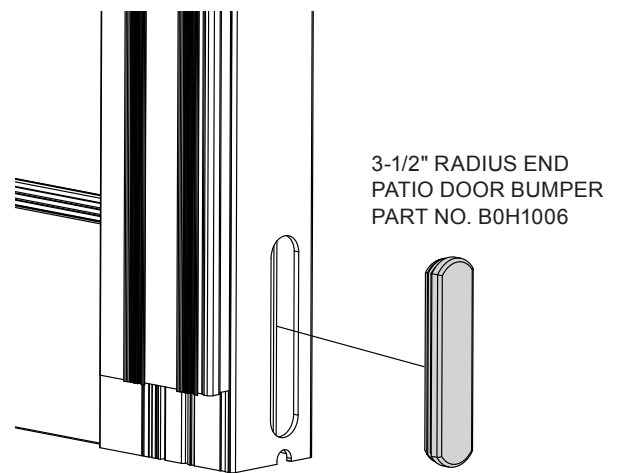

FIG. 17
6. Install the 3-1/2" Radius End Patio Door Bumper. (FIG. 17)